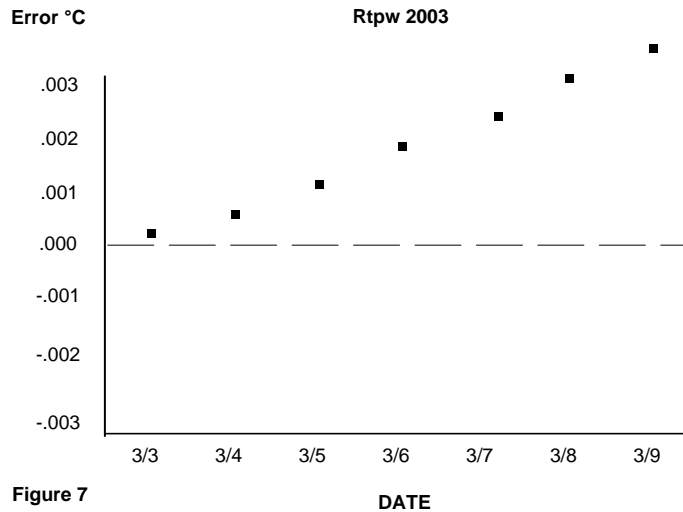

Figure 7
- 5.6 The R_{tpw} in Figure 7 shows a steady upward trend. This may be the result of metal ion contamination, severe mechanical shock or oxidation of the platinum.